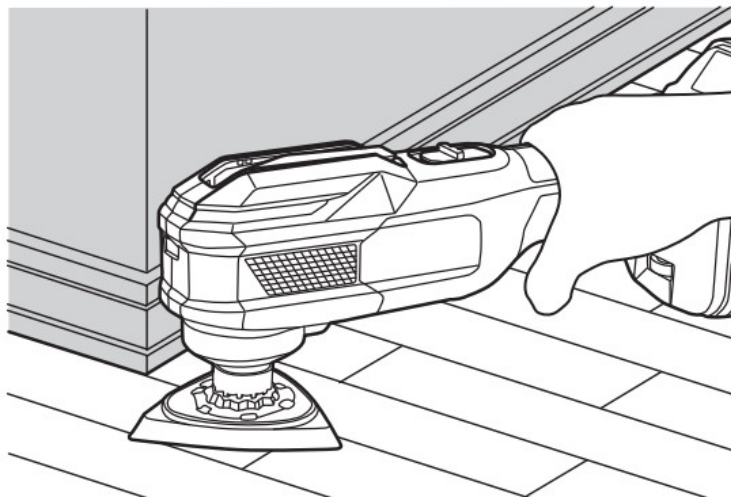

Fig. 15
(1) Switch the unit on and use the dial to set the speed of the application tool.
(2) Lightly place the application tool on the material and move the application tool back and forth at a pace where the movement isn't slowed. (Fig. 15)